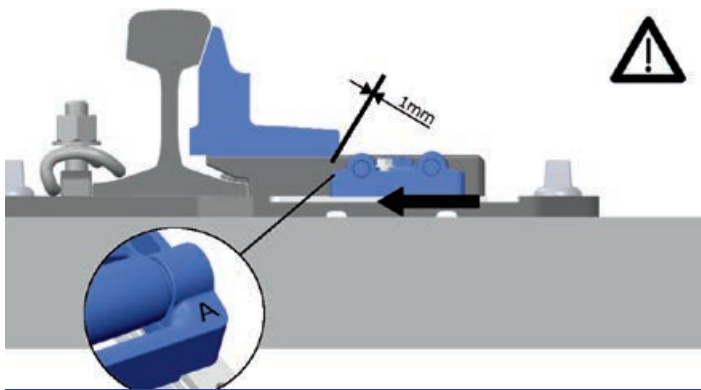

Fig. 9: Aligment of roller frame
10) The roller frame will be mounted, that the „A“-marked side is in direction to the rail foot and that the first roller is positioned approx. 1 mm from the edge of the switch rail foot. This can be checked with a 1 mm slip gauge. Then, the self-locking screws can be fixed at 80Nm (SW 15mm). [Torque wrench, wrench socket SW 15 mm, Slip gauge] (Fig. 9 and 10)
Therefore, the two self-locking screws of the roller frame have to be loosened (Fig. 10), the roller frame has to be removed and the shim to be placed under the roller frame. Afterwards the roller frame can be positioned, adjusted and fixed (Steps from Fig. 9 and 10).